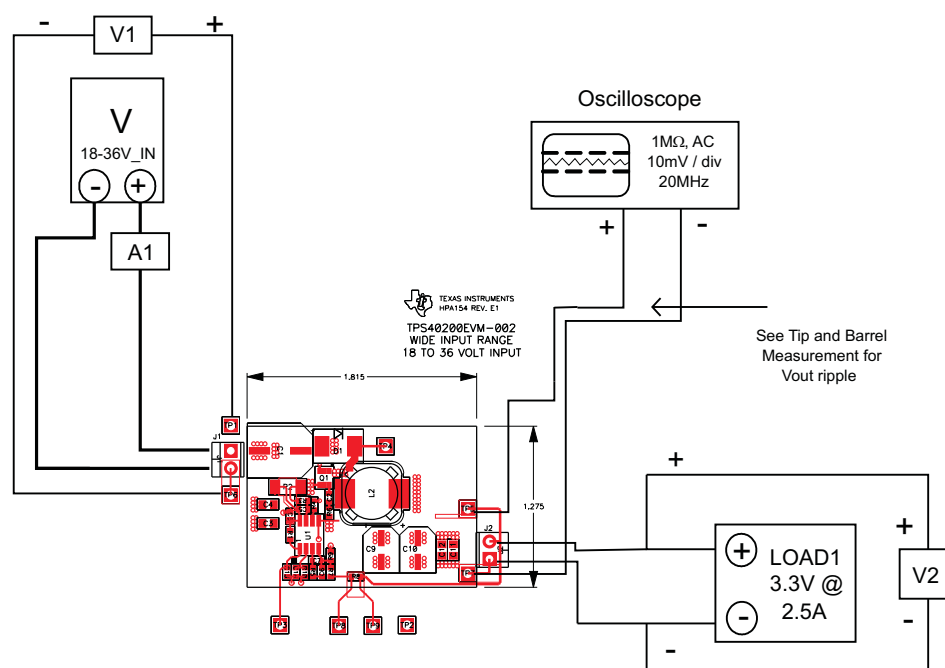

Figure 2. TPS40200EVM-002 Recommended Test Setup
A 60-MHz or faster oscilloscope can be used to measure the ripple voltage on V_{OUT} . The oscilloscope should be set for 1-M Ω impedance, ac coupling, 1- μ s/division horizontal resolution, and 20-mV/division vertical resolution for measuring output ripple. TP5 and TP7 can be used to measure the output ripple voltage by placing the oscilloscope probe tip through TP5 and holding the ground barrel to TP7 as shown in Figure 2. For a hands-free approach, the loop in TP7 can be cut and opened to cradle the probe barrel. Using a leaded ground connection may induce additional noise due to the large ground loop area.
The recommended basic test setup to evaluate the TPS40200EVM-002 is shown in Figure 2. Note that although the return for J1 and J2 are the same, the connections should remain separate as shown in Figure 2.
2. Prior to connecting the dc-input source, V_{IN} , it is advisable to limit the source current from V_{IN} to a maximum of 5 A. Ensure that V_{IN} is initially set to 0 V and connected as shown in Figure 2.
3. Connect the ammeter A1 (0-A to 5-A range) between V_{IN} and J1 as shown in Figure 2.
4. Connect voltmeter V1 to TP1 and TP2 as shown in Figure 2.
6. Connect voltmeter, V2 across J2 pin 3 and J2 pin 2 as shown in Figure 2.